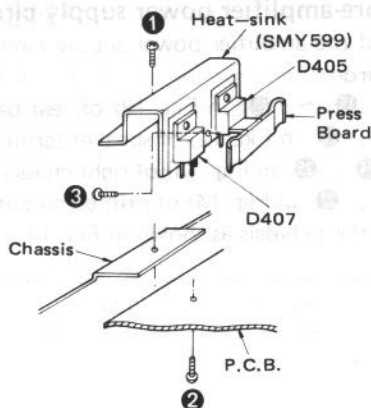

Fig. 18
2. Remove the setscrew ① (Fig. 18) used to secure the heat-sink of constant voltage SCR.
5. Remove them along with heat-sink (Fig. 18).
6. Remove the setscrew ③ (Fig. 18) of press-board which presses D405 and D407 against the heat-sink.